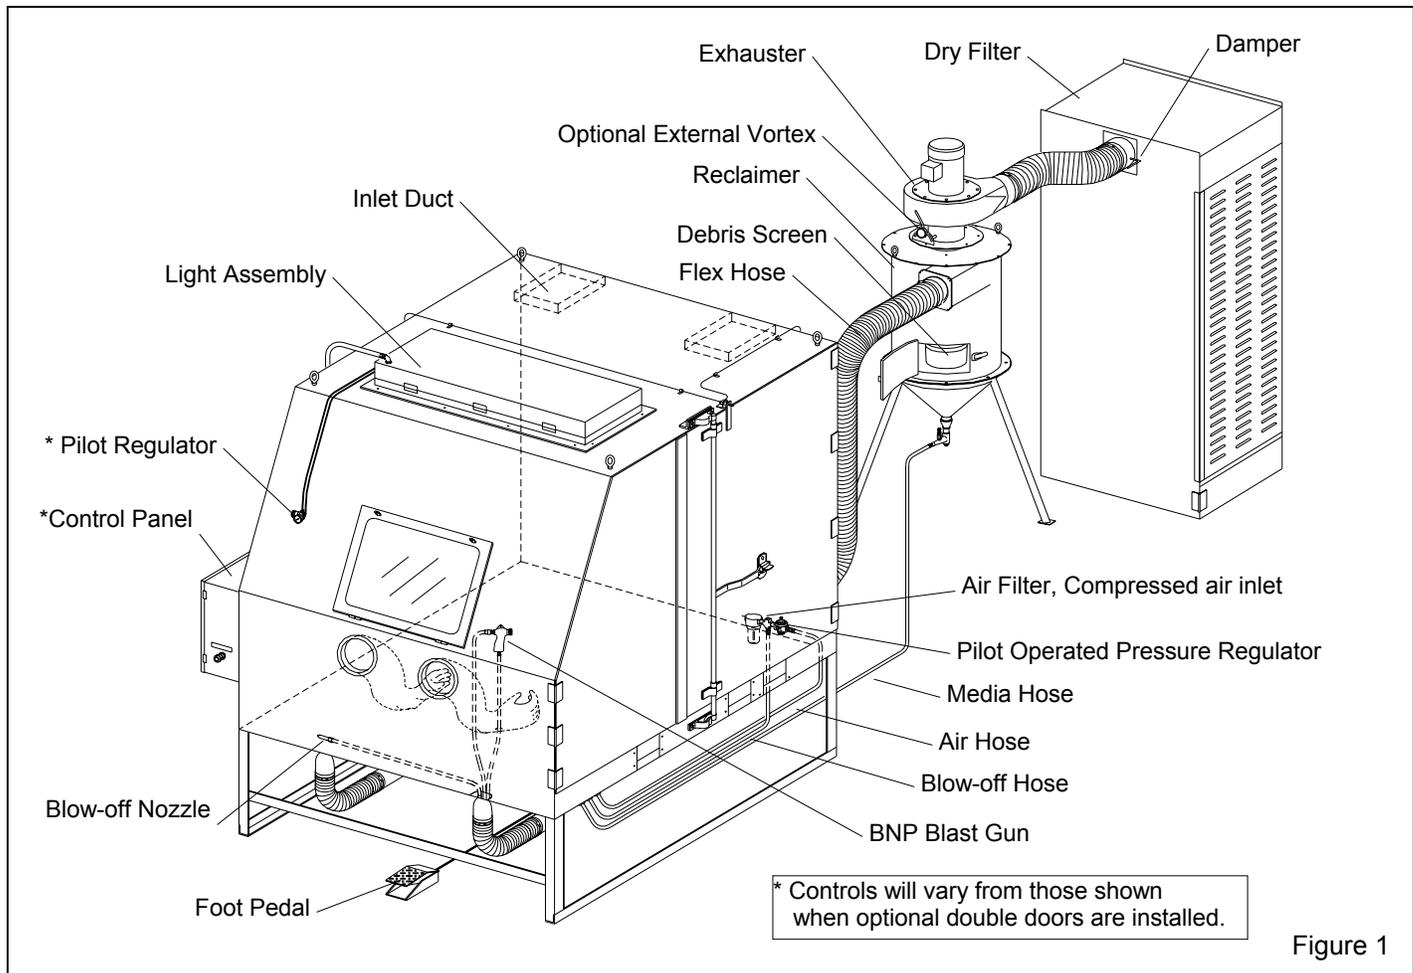
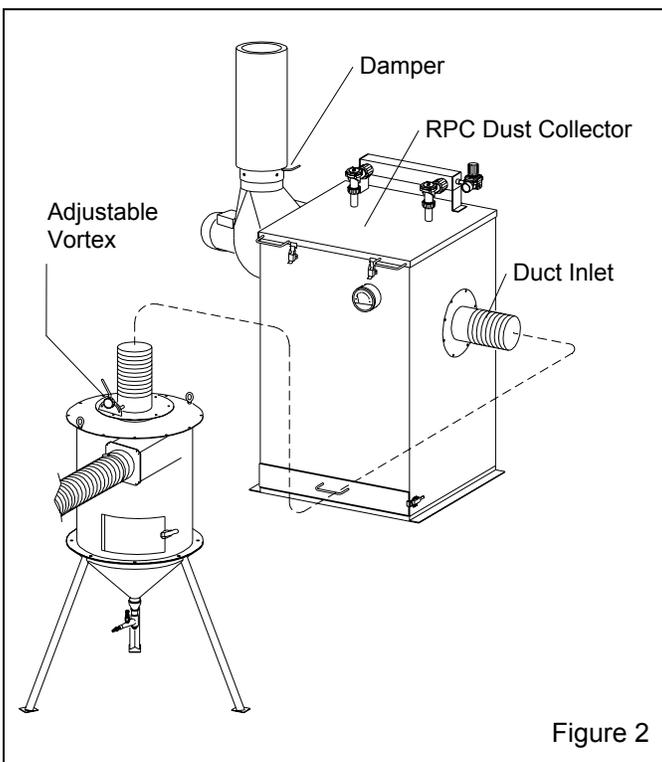
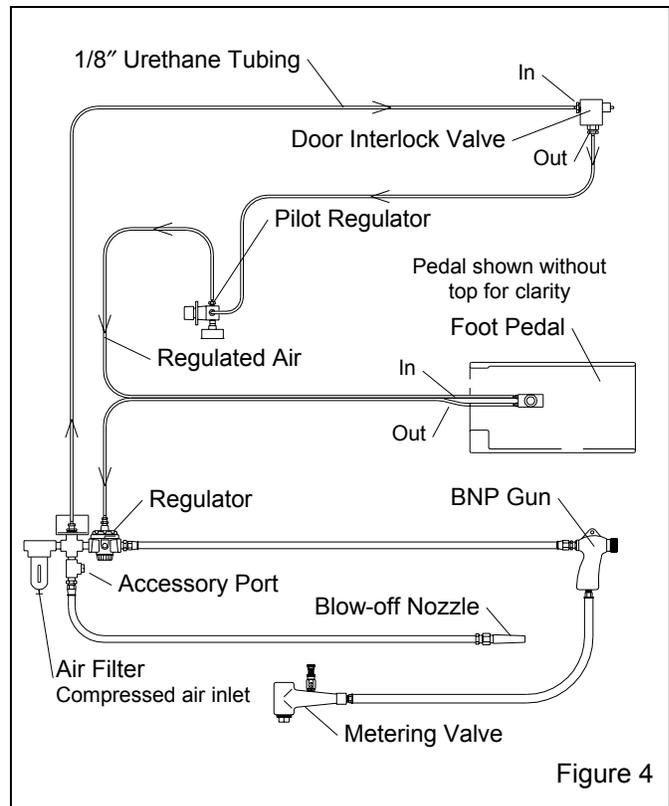

Figure 1
Figure 2
Figure 4
1.3.1 Abrasive blast cabinets enclose the blasting environment to provide efficient blast cleaning while maintaining a clean surrounding work area. Production rates are influenced by size of nozzle, compressor output, working pressure, type and size of media, angle and distance of the nozzle from the blast surface. See Figure 1 for arrangement of components with a dry filter. Figure 2 shows the arrangement with a reverse pulse dust collector. BNP suction cabinets consist of three major components:
**2.1.3** See Figure 1 (and 2 for optional reverse pulse collector) for the general arrangement and Figure 4 for control line schematic. Select a location where compressed air and electrical services are available. The cabinet location must comply with OSHA and local safety codes. Allow for full access to all doors and service areas, and for efficient handling of large parts. Provide enough clearance in front of the dust collector to remove the dust drawer without tipping. Ideally, locate the reclaimers directly behind the cabinet with the media hose connection toward the cabinet with as few bends as possible. Determine the best location, and position all units before final assembly.